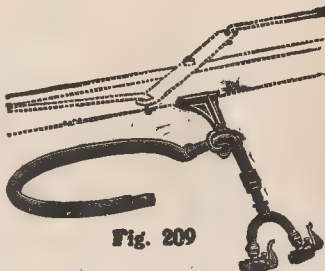

Fig. 209
sprayers, as shown in Fig. 209 . . . . .
**Middle Row Attachment, Fig. 209.**—This is applicable to Nos. 102 and 103 Sprayers only, and can be used only when Sprayers have the tongue equipment applied. It is quickly attached to the center of the sprayer bar, and is intended for use when spraying three rows of vine crops, such as cucumber, tomato, etc. It is intended to carry one or more nozzles, but with this attachment we furnish the twin coupling without nozzles. **Price,**